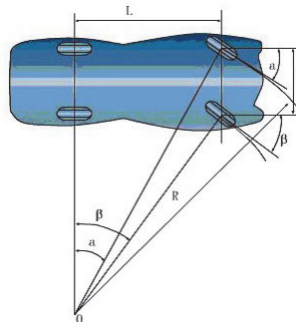

Fig. 1-12 Toe-out on turns
1.2.2.8 Toe-out on turns (Fig. 1-12)
When steering, all the wheels of the vehicle shall have the same instantaneous center of rotation to guarantee the pure rolling movement of the wheels. As is shown in the fig.1-12, to guarantee that there is only one center of rotation (O), the two front wheels must have different steering angles. The relation between the